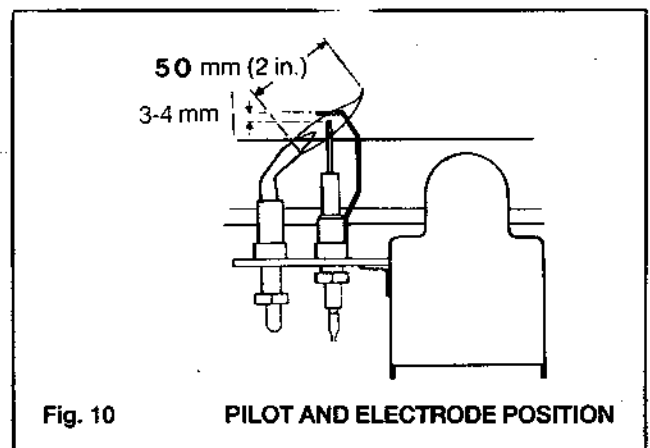

**Fig. 10**
- The spark gap is correct - Refer Fig. 10.
Light the boiler & check that the pilot flame is 50 mm (2 in) long, as shown in Fig. 10. The pilot adjuster screw is factory set to maximum & no adjustment should be necessary. However, if the pilot flame appears small, check the adjustment of the pilot pressure adjuster screw (S)- refer Fig. 9- as follows:
- Turn the pilot pressure adjuster screw (S) CLOCKWISE until fully CLOSED.